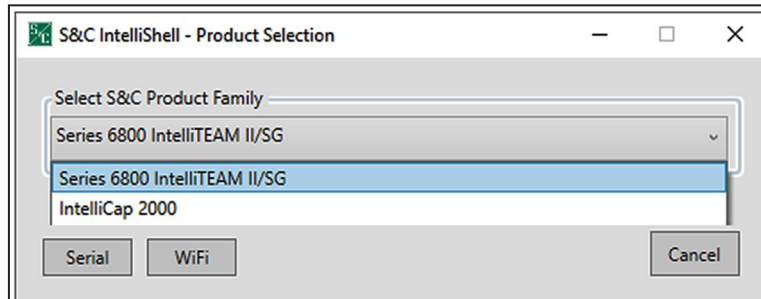

Figure 5. The S&C IntelliShell—Product Selection dialog box.
**STEP 3.** Select the **Series 6800 IntelliTeam II/SG** option and click on the **Serial** button to make a serial connection, or click on the **Wi-Fi** button to make a Wi-Fi connection. See Figure 5.